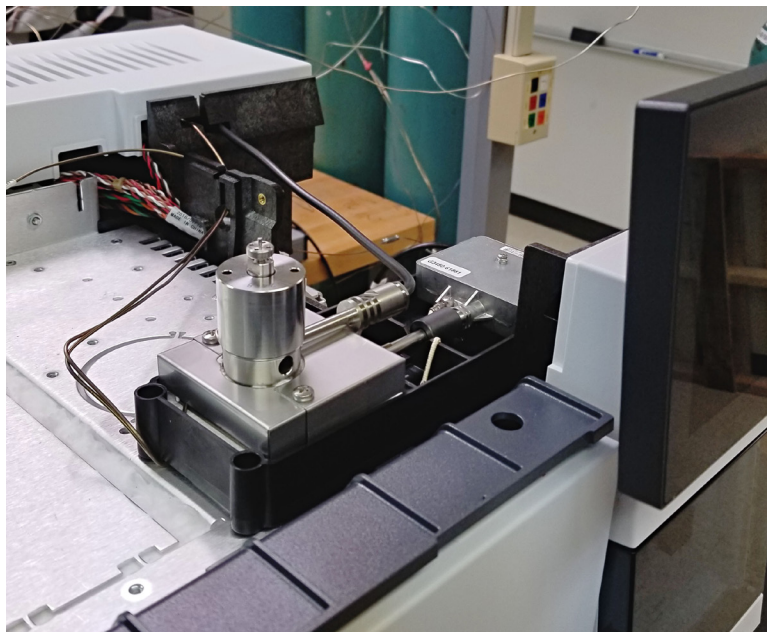

Figure 1: A D3 detector in the “Front” position on an 8890
1. Place the D3 on the top of the GC in either the front or back detector position (**Figure 1**), and tighten the four captive Torx T-20 screws in the detector pallet.
4. Turn on GC power and wait for the Opening screen page (**Figure 1**).